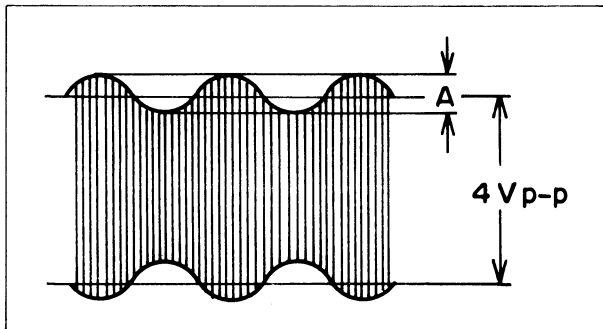

Fig. 5-33. 4.35MHz waveform
- Now, adjust L20 and L21 so that the 4.35MHz output is maximum and the "A" part is minimized as shown in Fig. 5-33.